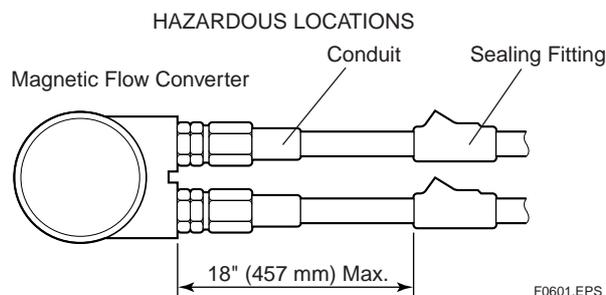

Figure 11.2.1 Conduit Wiring
- In hazardous locations, wiring to be in conduit as shown in Figure 11.2.1.